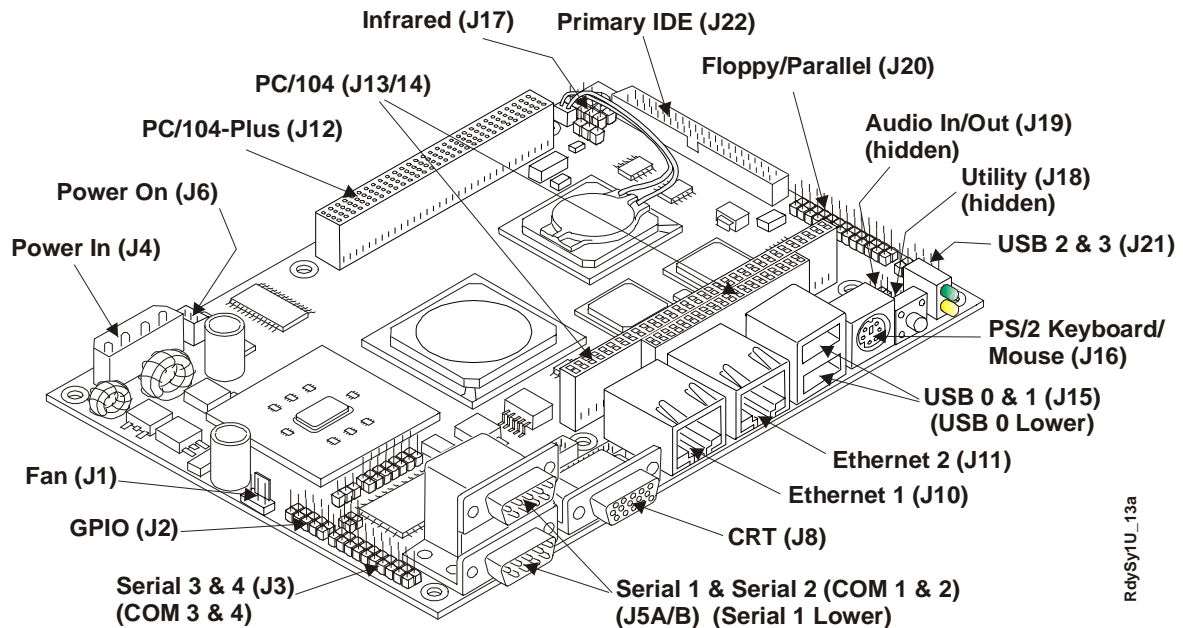
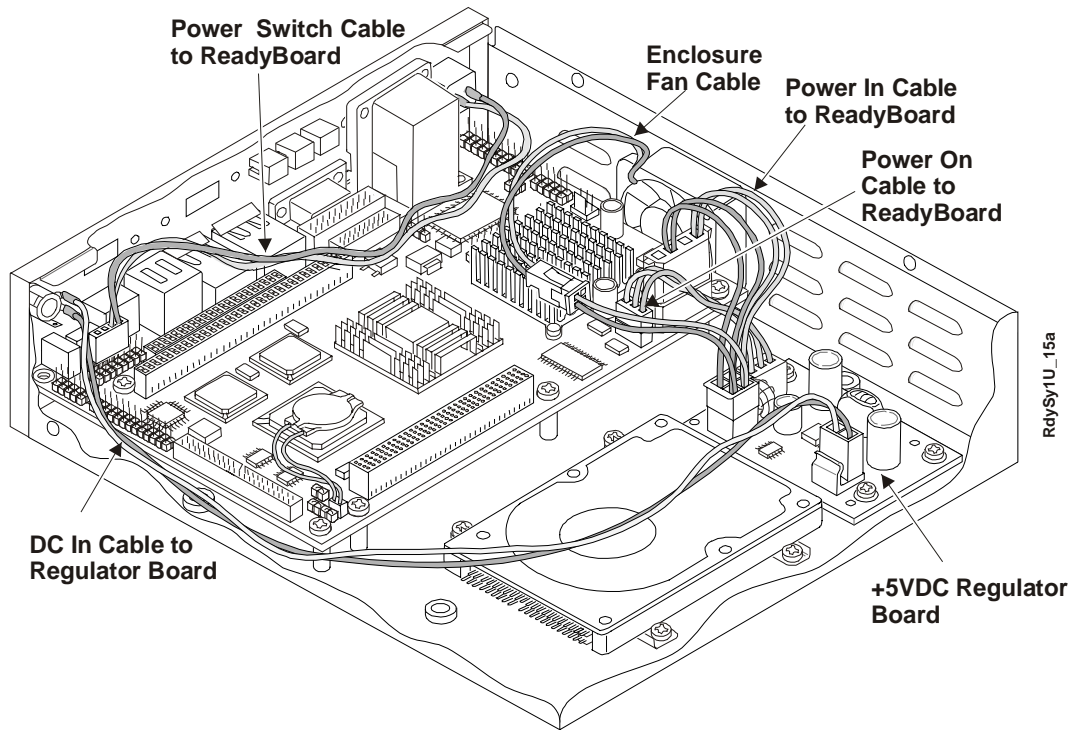

Figure 2-9. Connector Locations (Typical ReadyBoard)
Figure 2-11. Installing Power Cables
1. Connect the Power Switch (two-wire) cable to the Utility connector (pins 1 & 2) on the ReadyBoard, matching the red wire with pin-1. See Figures 2-9, 2-10 and 2-11.
2. Connect the Power In cable to the Power In connector (J4). See Figures 2-9, 2-10 and 2-11.
3. Connect the Power-On cable to the Power-On connector (J6) on the ReadyBoard, as shown in Figure 2-11. See Figures 2-9 and 2-10.
4. Connect the DC In cable to the +5 volt Regulator board. See Figure 2-11.
2. Connect the USB2 & USB3 cable to the USB2 & USB3 (10-pin) connector (J21) on the respective ReadyBoard. See Figures 2-9, 2-10, and 2-12.
3. Connect the Audio cable to the Audio In/Out (16-pin) connector on the respective ReadyBoard. See Figures 2-9, 2-10, and 2-12.
4. Connect the IDE cable to the IDE connector (J22). See Figures 2-9, 2-10, and 2-12.